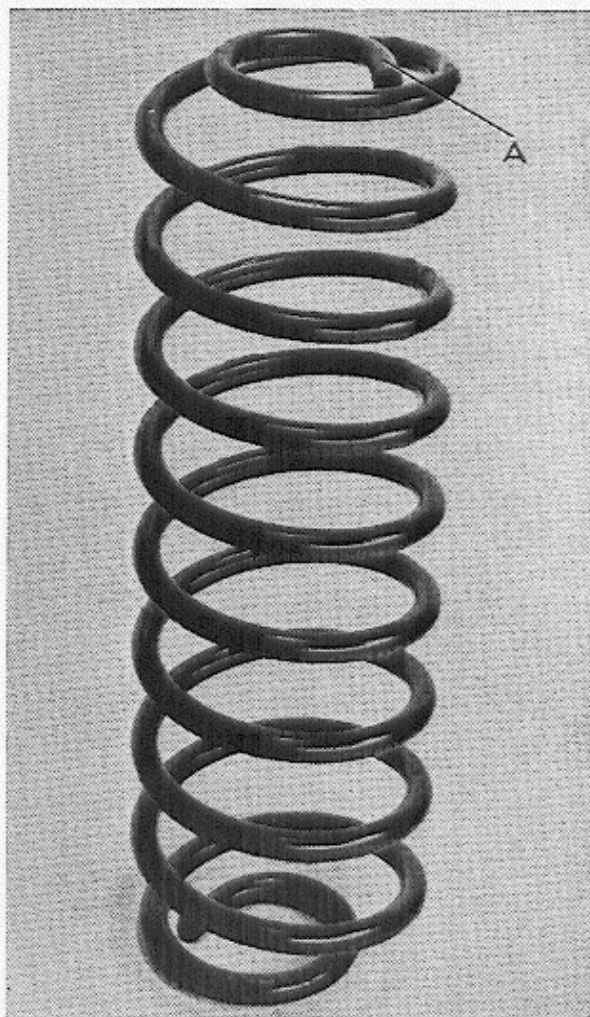

Fig. 6. Rear spring, PV 544
1. Place the spring and the rubber spacer (4) into position and attach the spring to the body. The straight part of the spring (A, Fig. 6) must face diagonally inwards.
2. Raise the rear axle housing with the jack and attach the spring to the support arm. Attach the shock absorber band (7) to the rear axle support arm.
3. Connect the shock absorber (5) to the rear axle housing.